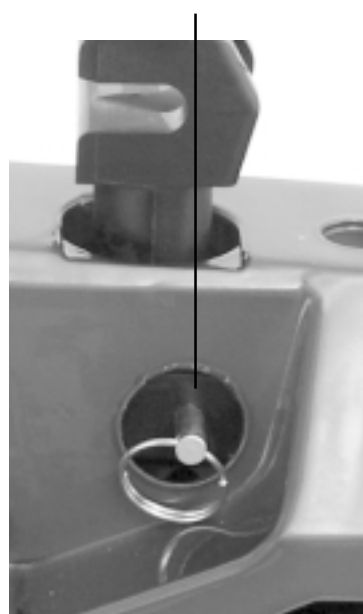

Figure 10. Seat Post
3. Remove the ball detent pin from each seat post. See figure 10.